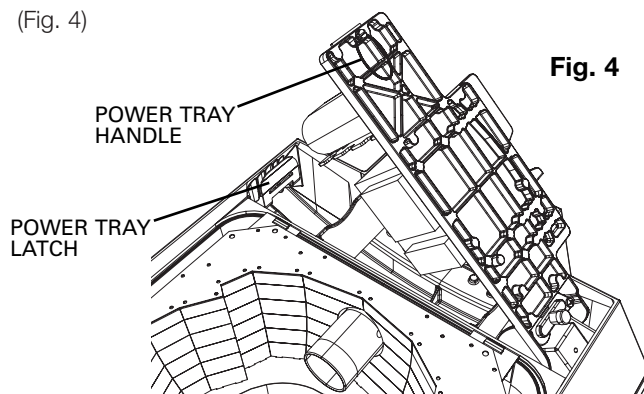

Fig. 4
4. Hold POWER TRAY HANDLE and press POWER TRAY LATCH away from the power tray. Hinge power tray up and lift from fixture. (Fig. 4)